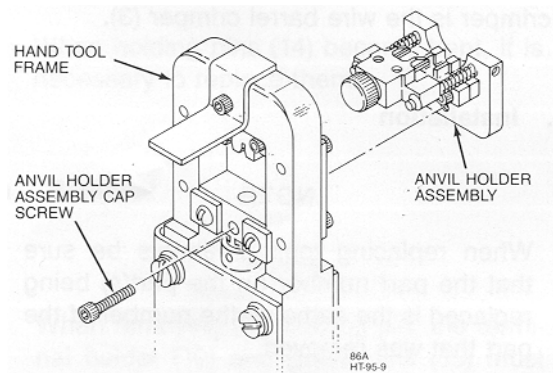

Figure 7
2. Using a 7/64-inch Allen wrench, remove the cap screw securing the anvil holder assembly to the hand tool (see Figure 7). Then remove the anvil holder assembly.